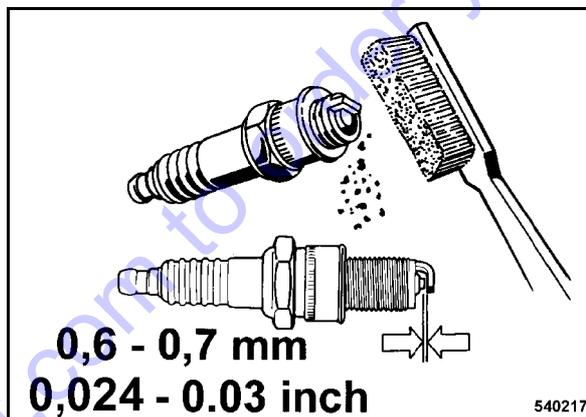

Fig. 41
- Unscrew the spark plug, check the spark plug visually and clean it if necessary (Fig. 41).